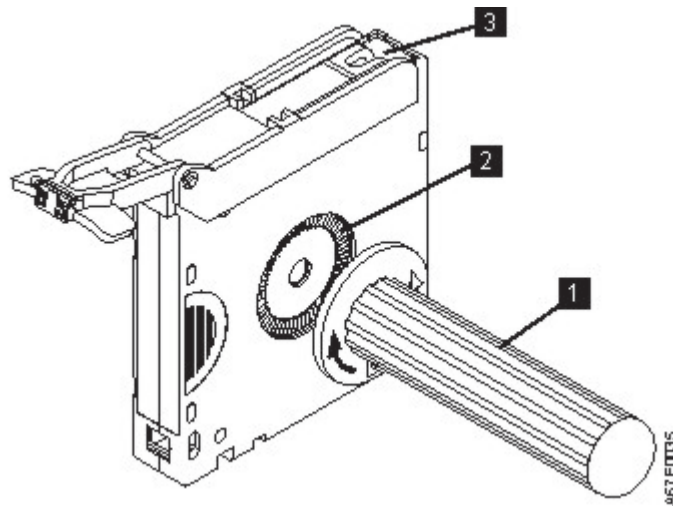

Figure 107. Winding the tape out of the cartridge
2. To find the end of the tape inside the cartridge, attach the cartridge manual rewind tool (1 in Figure 107 on page 237) to the cartridge's hub (2) by fitting the tool's teeth between the teeth of the hub. Turn the tool clockwise until you see the end of the tape inside the cartridge. Then, slowly turn the rewind tool counterclockwise to bring the tape edge toward the cartridge door (3).